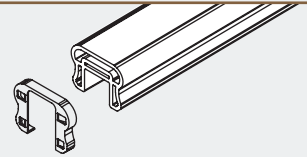
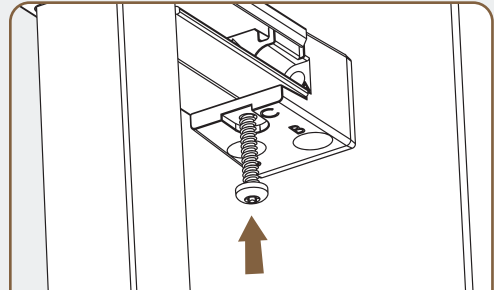

Fig.14-1 - Install Gaskets over Top Rail ends
Fig.14-2 - Finishing Driving #8 Screw through spacer, bracket and into the Top Rail
- IF USING GASKETS, install over rail ends (Fig. 14-1)
- Finish driving #8 1.75" self-tapping screw (C) through the spacer, the bracket, and into the top rail on one end of top rail — use an extended length bit to avoid scratching post sleeve, and hold or clamp top rail in place (Fig.14-2)
- Pre-drill (B) channels through bottom of bracket with 5/32" drill bit using extension to avoid damaging post sleeve, be careful to only drill through 2 layers and not through top of the rail
- Repeat Fig.14-1 and Fig.14-2 for bracket at opposite end of top rail